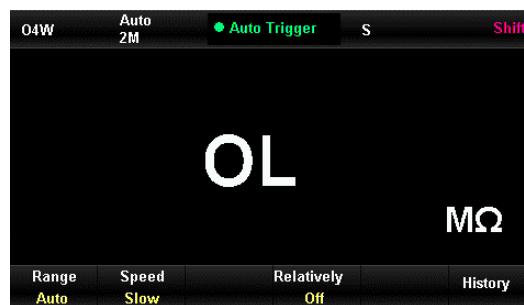

Figure 2-15 Interface of 4-wire resistance measurement
- 1) Press **Shift** button, and then press **0.2W** button to enter interface of 4-wire resistance measurement, as Figure 2-15.